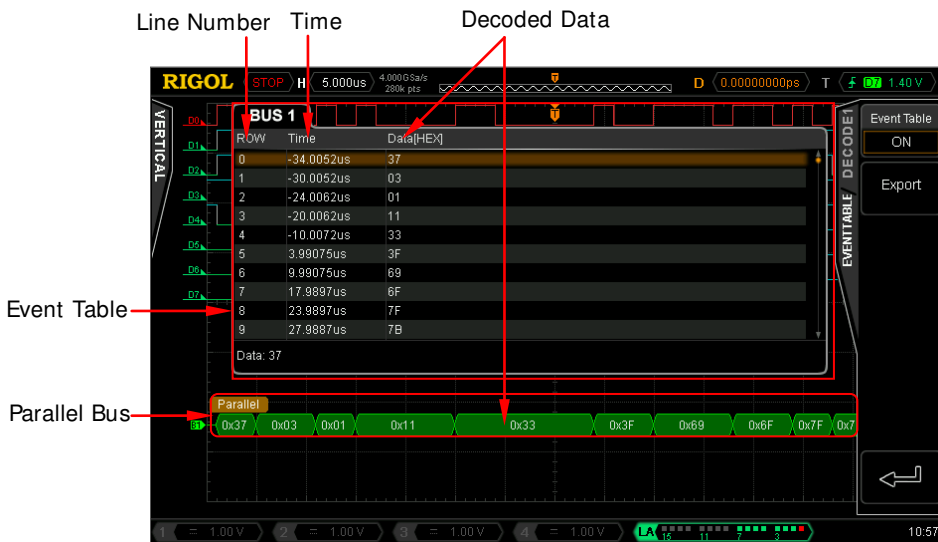

Figure 8-2 Parallel Decoding
Press **BusStatus** to turn the Decode1 display on or off. You can also press **Decode1** to switch the current on/off status of the Decode1 display. When the Decode1 display is turned on, the interface is as shown in Figure 8-2.
- 1) Press **Event Table** to turn on or off the event table. When the event table is turned on, the interface is as shown in Figure 8-2.